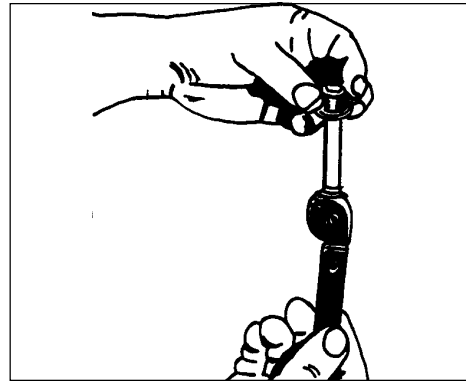

Figure 5
10. Remove the nut and one plain washer from the locking cam. Leave one plain washer on the locking cam. See figure 5